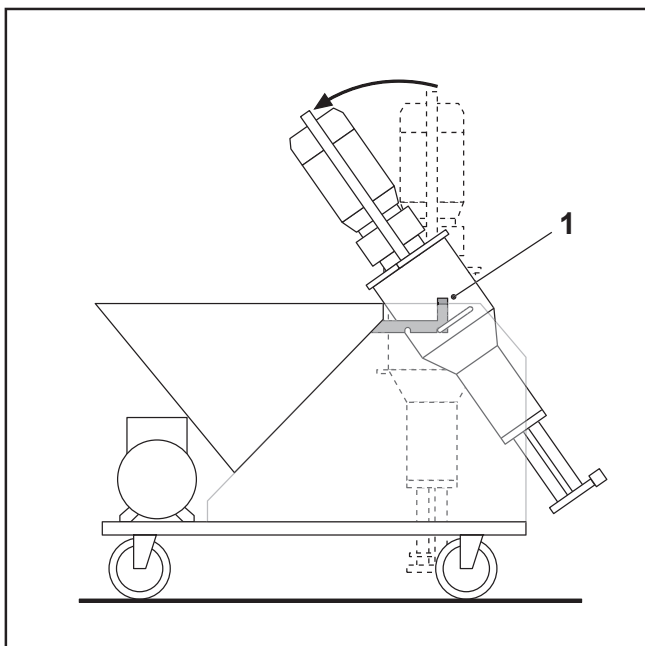

FIG.33
- Incline the mixing chamber unit and block in this position (FIG.33).